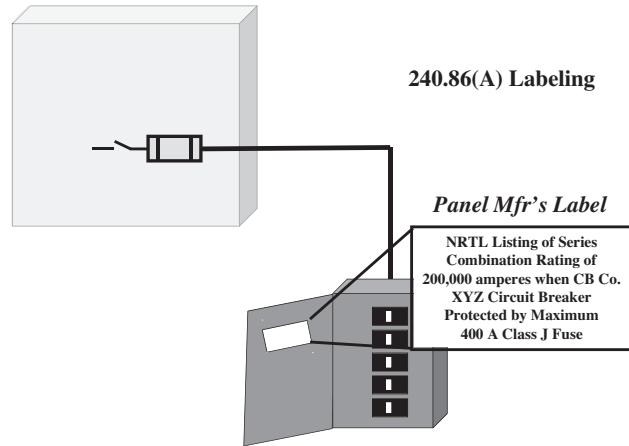

Figure 3
Section 240.86(A) requires that, when a series rating is used, the switchboard, panelboard, loadcenter, or other equipment be marked by the manufacturer for use with the series rated combinations to be utilized. This indicates that the appropriate switchboard, panelboard or loadcenter assembly has been investigated for such use with the specific series rated combination. For instance, the series rated combination shown in Figure 2 is tested and marked for use in a particular manufacturer's panelboard type as shown in Figure 3. Notice in these two figures that the load side circuit breaker has an individual marked interrupting rating of only 10,000A. But with the series rated combination testing and marking, it may be possible to use it where 200,000A of available short-circuit current are available. Also, note that this rating applies to (1) a specific manufacturer's type and size circuit breaker, (2) when used in a specific manufacturer's type panelboard, switchboard line, or other equipment, (3) when protected on the line side by a specific maximum ampere rating and class fuse and (4) the panelboard is factory marked with the necessary series combination rating specifics. The line side (protecting) fuse can be installed in the same panelboard or a separate enclosure.